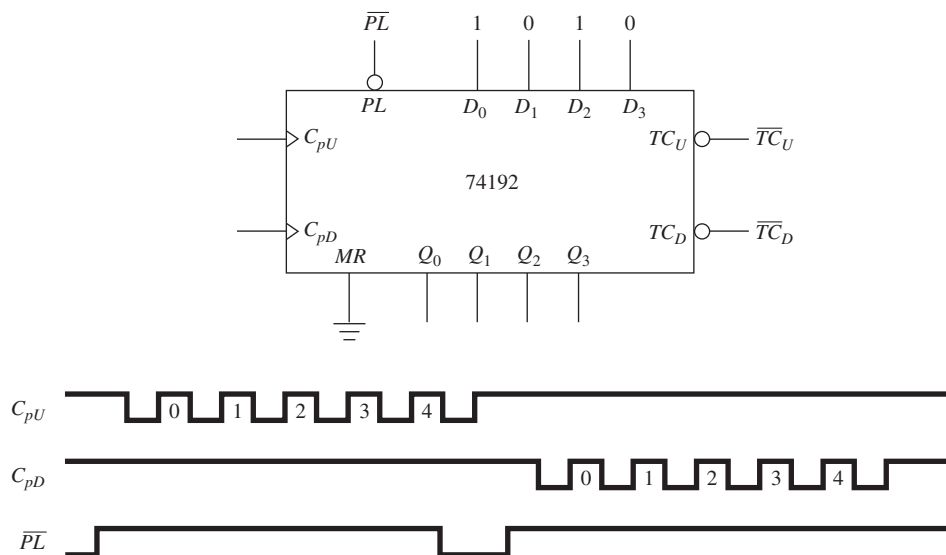

Figure P12–39
- C** 12–40. Sketch the timing waveforms at \overline{RC} , TC , Q_0 , Q_1 , Q_2 , and Q_3 for the 74191 counter shown in Figure P12–40.